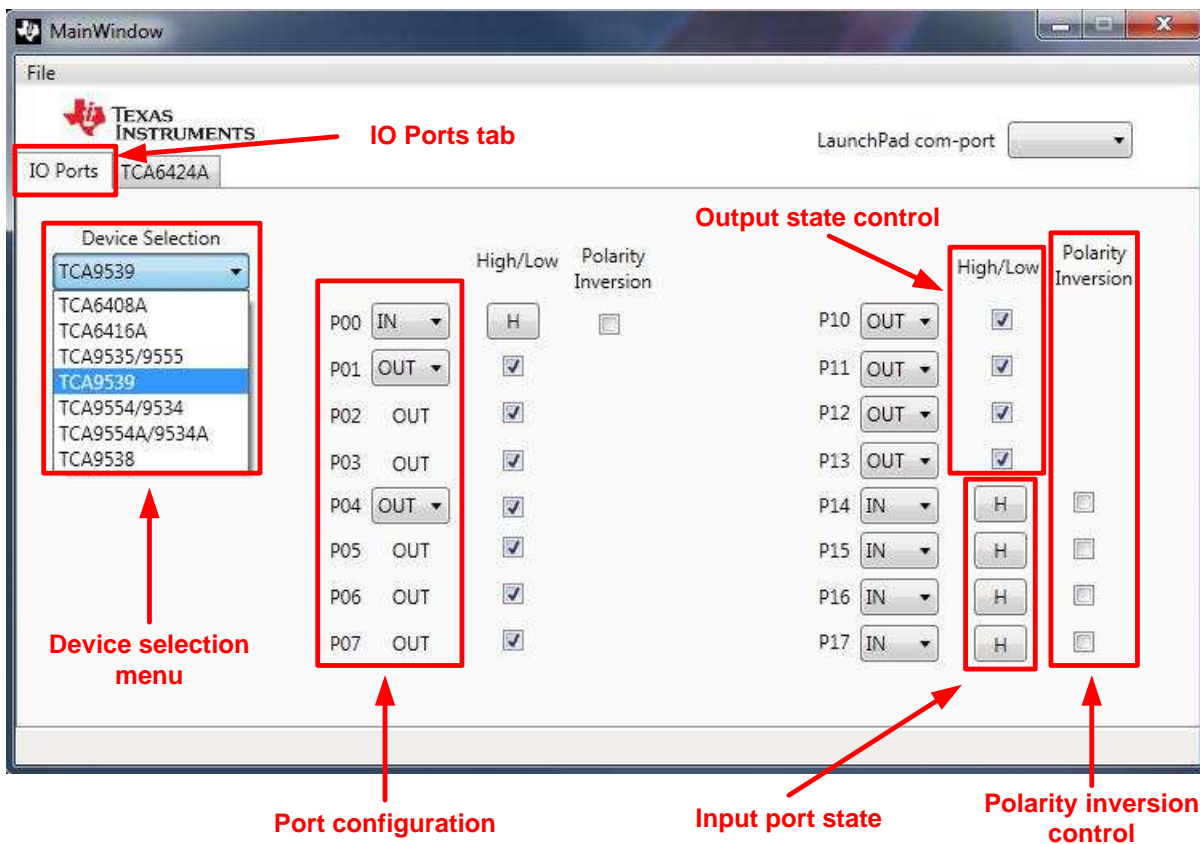

Figure 3. IO Ports Tab (16-bit Part Installed) on GUI
1. The IO Ports tab offers control for the TCA9539 and any of the other supported 16-bit IO expanders if one is alternately installed on the PCB. Figure 3 shows the IO Ports tab on the GUI for a 16-bit part.